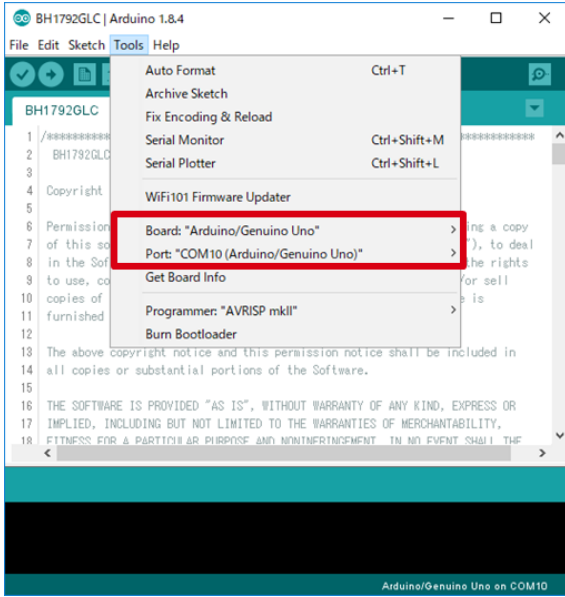

Figure 3. COM Port setting
1. Select [Tools] and check the contents enclosed in the red frame. (Figure 3) Board is "Arduino/Genuino Uno". Port is "COMxx (Arduino/Genuino Uno)". COM port number is different in each environment.